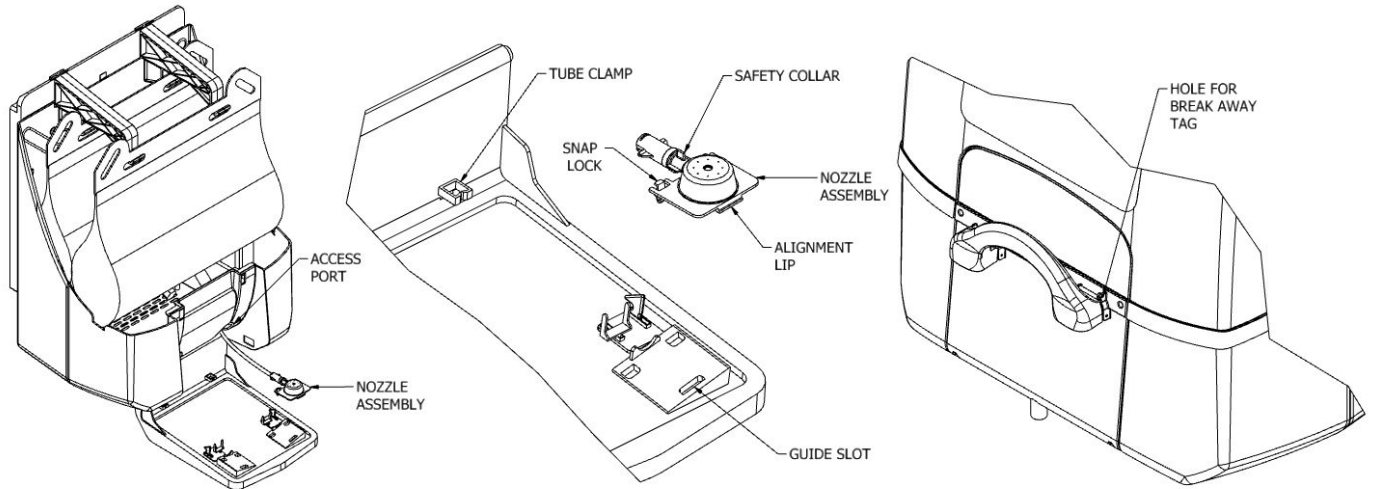

FIGURE 16
- A. With Lid Assembly removed and Tray Assembly in the open position, feed the first Nozzle Assembly (part of Fluid Cartridge Assembly) through the Access Port on the Housing Assembly. (Ref Figure 16)
- B. After securing Cartridge tube with Tube Clamp, Tilt Nozzle Assembly to insert alignment lip into guide slot on Tray Assembly. (Ref Figure 16)
- B. Place easy Break Away Tag through hole provide on right side of handle. (Ref Figure 16)